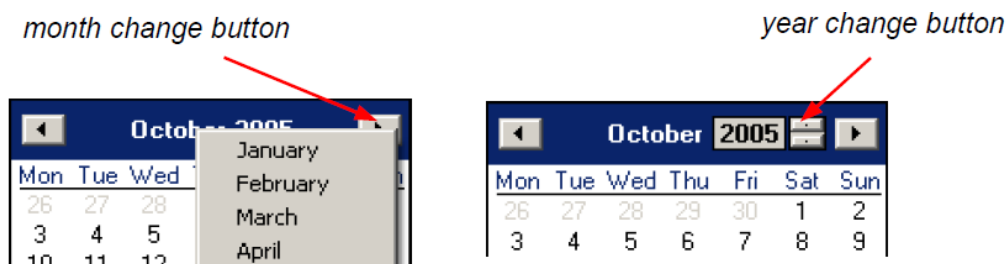

Fig. 3.5. Changing months and year
2) The date can be change by clicking onto any day in the calendar. Buttons at the top part of the calendar are used to change months (Fig. 3.5). After clicking on the current year located to the right from month’s name an edition window and buttons for changing the year are displayed (Fig. 3.5).